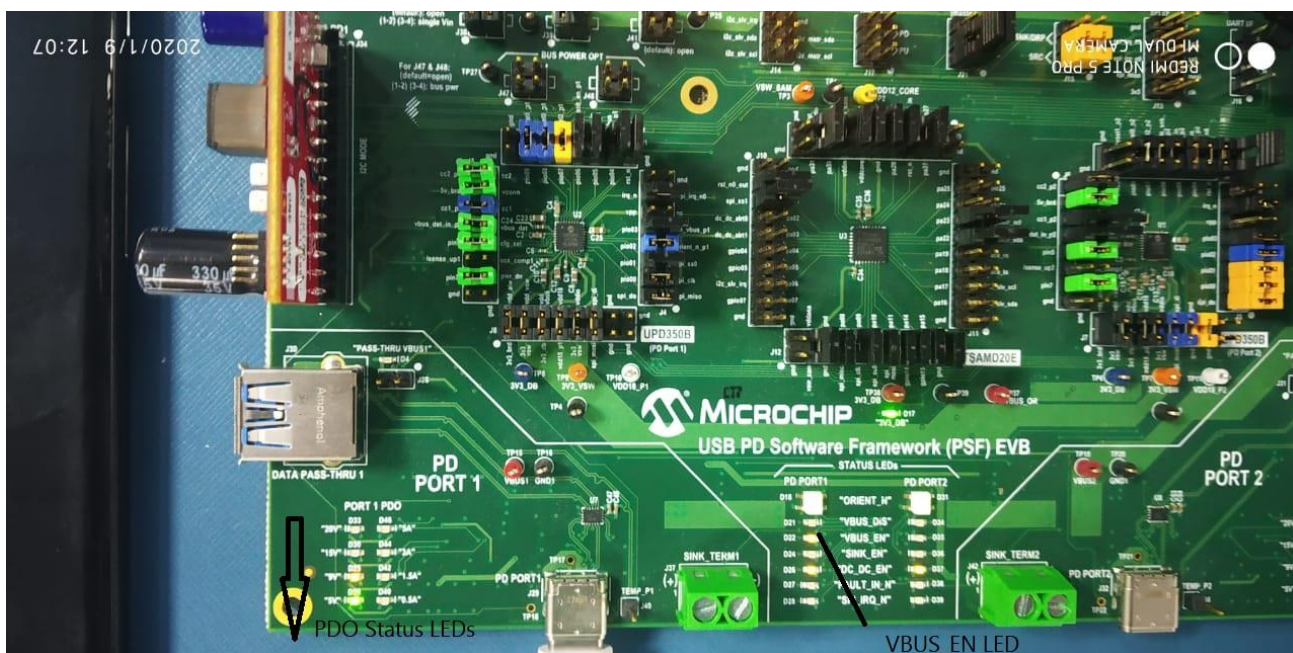

Figure 7.2 VBUS_EN and PDO Status LEDs after device attach
4. Once an explicit power contract negotiation is in place, the device starts charging. VBUS_EN LED will turn on along with the PDO status LEDs indicating the negotiated voltage as shown in Figure 7.2
5. In our case, Google Pixel connected in Port 1 has requested 9V and Samsung Galaxy in Port 2 has requested 5V. The status of VBUS_EN and PDO status LEDs is shown in Figure 7.2